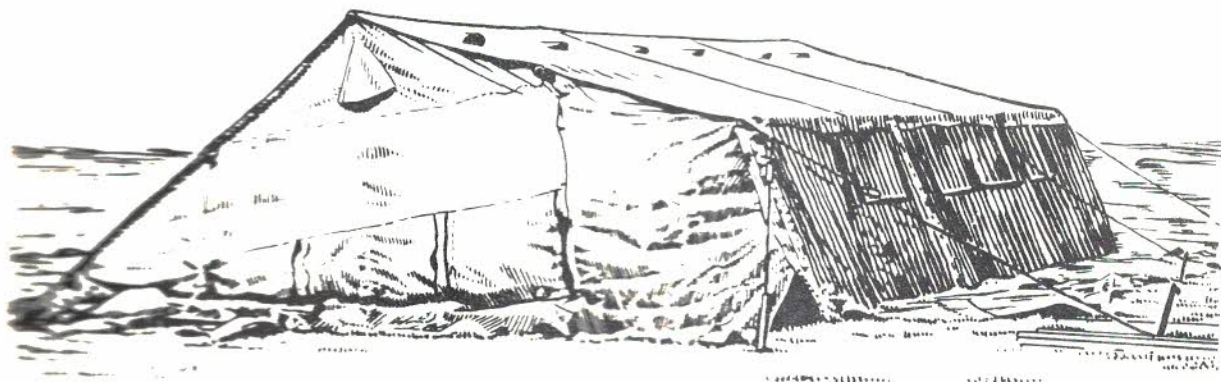

FIG 26 - FIRST STAGE OF FITTING COVER
42. Drive pins approximately six feet from each corner of the frame as shown in Fig 26.
corner guys to the pins as in Fig 26.